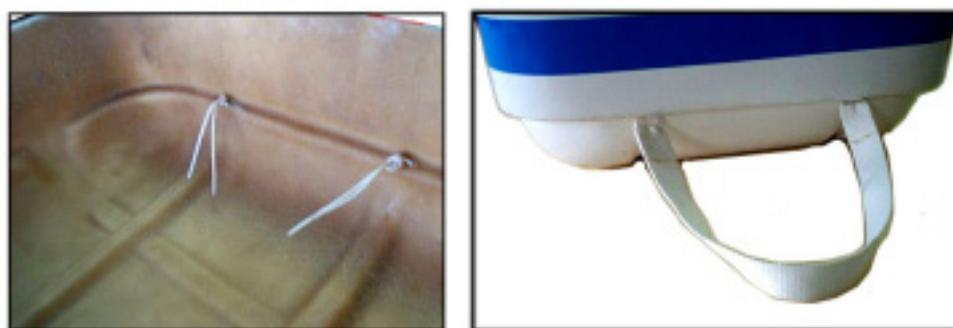

FIGURE A7-5B
- (h) Inside the container, take both cords and pull them fully into the container. Make an overhand knot as close as possible to the inside of the container. Refer to FIGURE A7-5B.